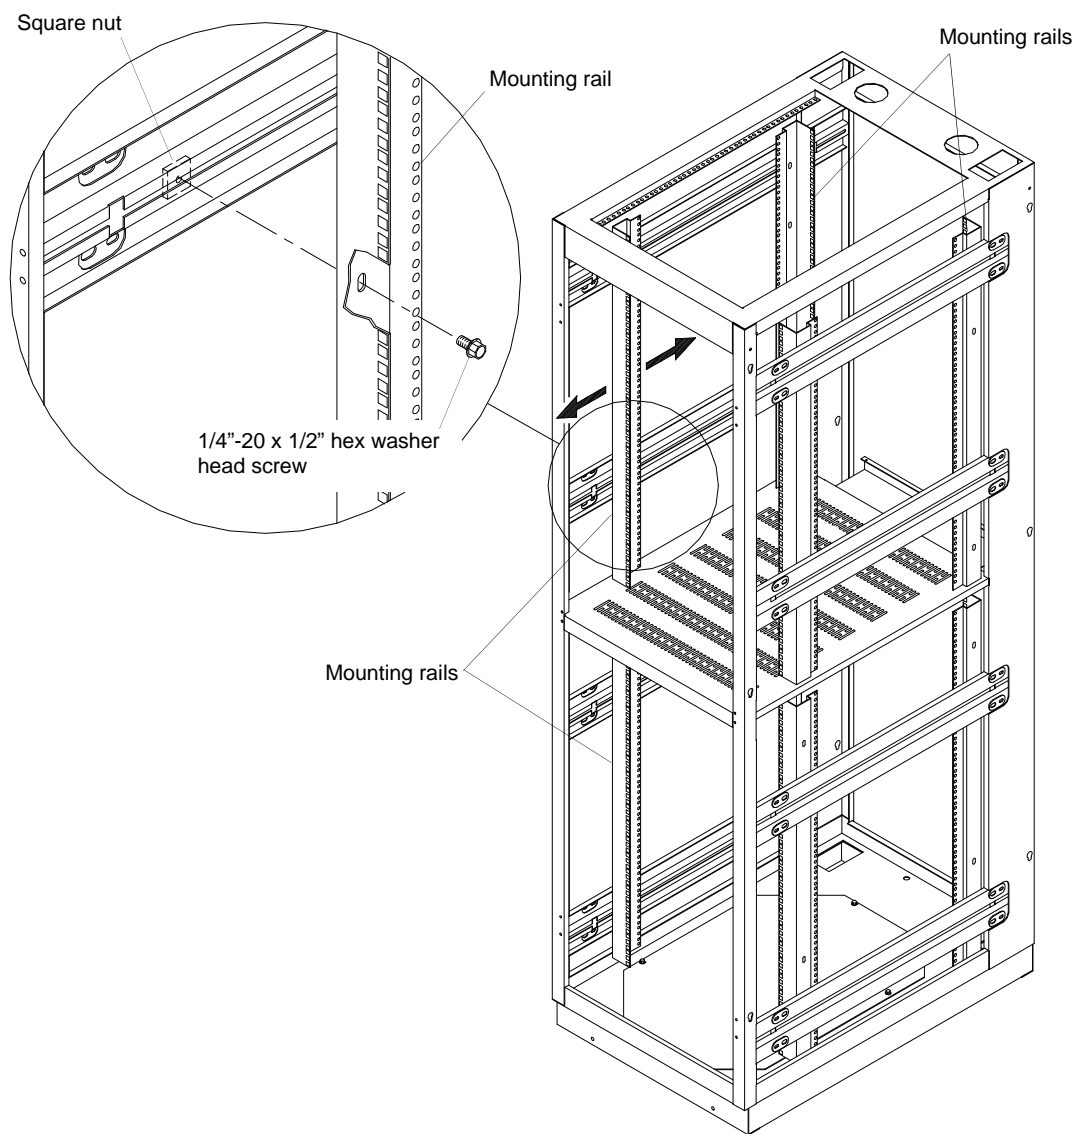

Figure 5
1. Vantage Enclosures come with four fully adjustable **Mounting Angles**. To adjust a Mounting Angle, loosen but do not remove the three 1/4"-20 x 1/2" hex washer head screws located at the top, center, and bottom of the Mounting Angle. See figure 5.
2. Slide the Mounting Angle forward or backward to the desired location and tighten the screws. Be sure that the Mounting Angle stays vertical from bottom to top. See figure 5.